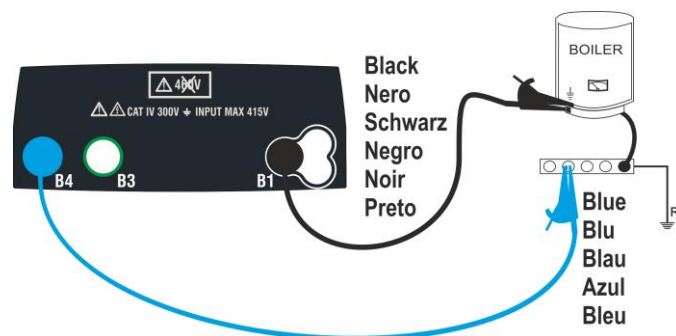
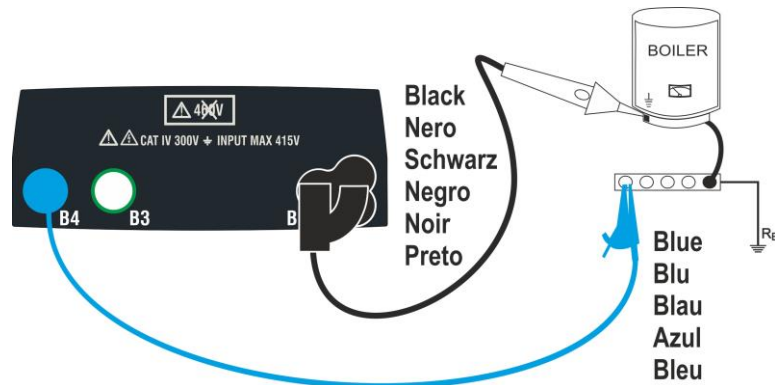

Fig. 10: Continuity test by means of single cables
Fig. 11: Continuity test by means of remote switch probe
6. Connect the test leads to the ends of the conductor to be tested as shown in Fig. 10 or Fig. 11.